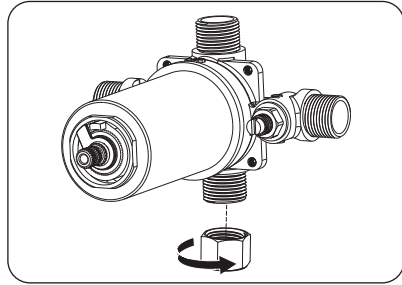

Figure 1
1. Apply thread seal tape to the lower outlet port. Install the included cap and wrench tighten (see Figure 1).